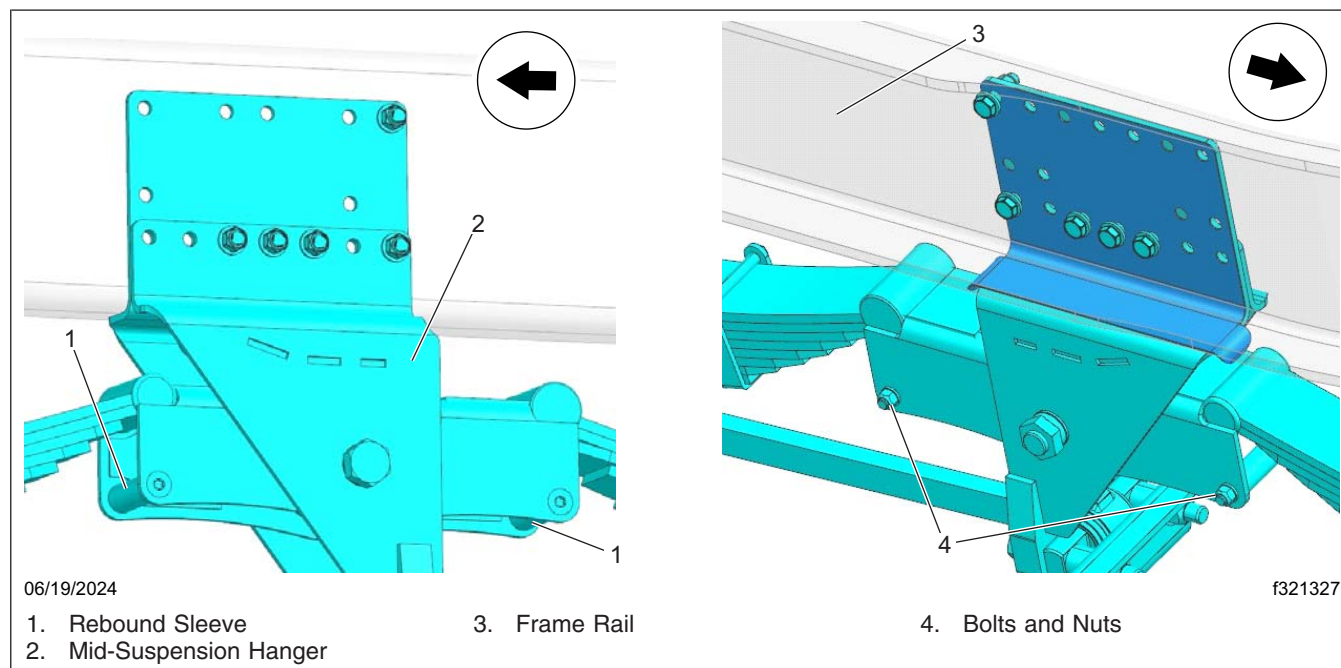

Fig. 12, Rebound Sleeve Bolt and Nut
8. Re-use the sleeve, and replace the nuts & bolts on the mid-suspension hanger and tighten 76 lbf·ft (103 N·m). See Fig. 12.